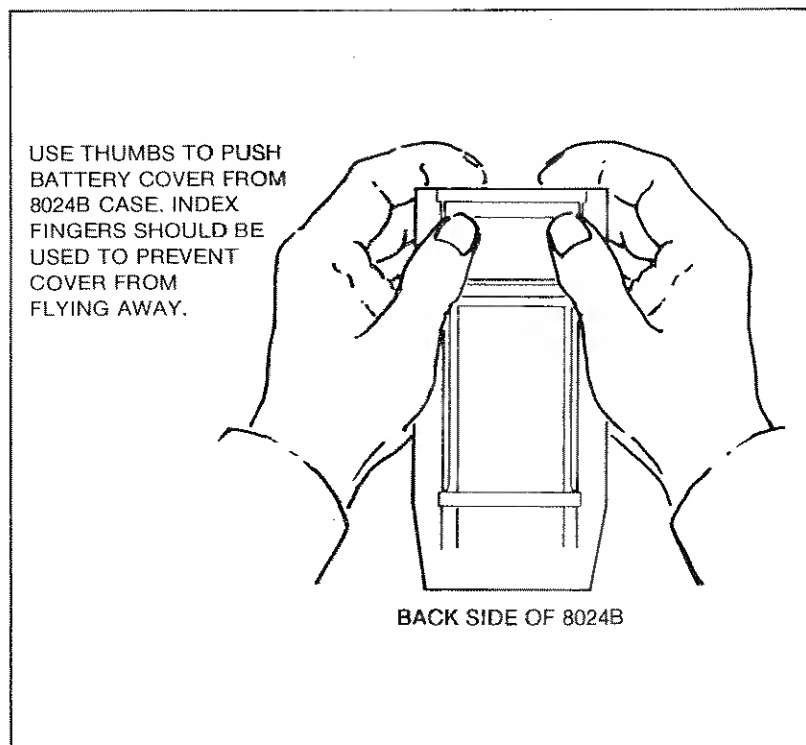

Figure 2-1. Removing the Battery Cover
3. Open the battery compartment on the bottom of the 8024B as shown in Figure 2-1.